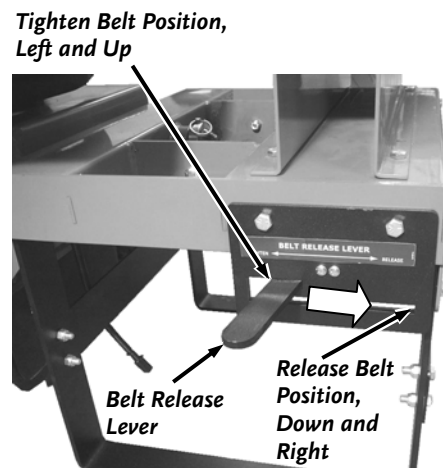

Figure 23
6. Make sure the Belt Release Lever is in the "Release" position (Figure 23).